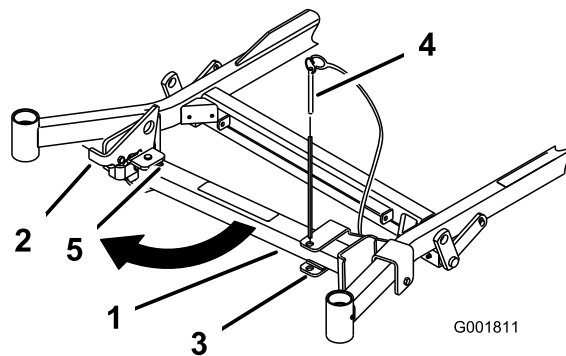
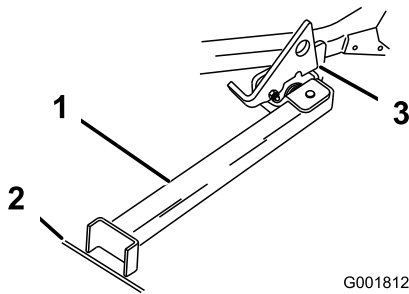

Figure 29
Figure 30
2. Remove the bracket pin (Figure 29).
3. Raise the latch. Swing the stand foot out front and slide stand toward machine, into the bottom of slot (Figure 29 and Figure 30).
4. Set the foot of stand on the ground and rest the latch on the pivot tab (Figure 30).
Note: For best results, place the foot of stand into seams in sidewalks or into the turf (Figure 30).
6. Drive onto the stand. Stop when the latch drops over the tab into the locked position (Figure 30). Once onto the stand, engage the parking brake and turn off the engine.
5. Return the stand to its rest position (Figure 29).